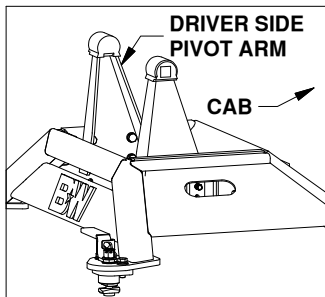
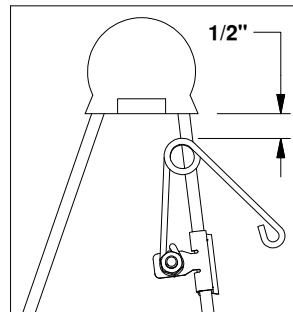

Figure B3: Base View
Figure B4: Driver
2. Locate the flange which will be closest to the truck cab on the driver side pivot arm, see Figure B3. The clip should be placed so that when the springs coil is in the line with the edge of the arm there will be 1/2" of clearance between the bottom of the rubber bumper and the top of the spring, see Figure B4. Drive the clip securely onto the flange with a hammer.